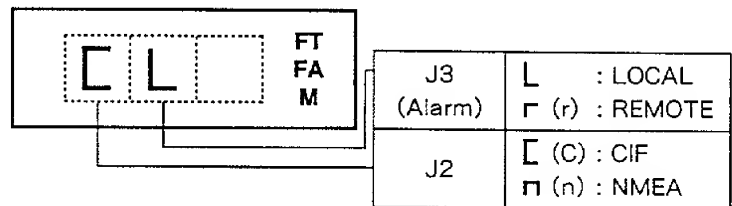

Fig. 6-3
- 3) Test terminates, showing the settings of J2 and J3 on the MAIN board. See Fig.6-3.